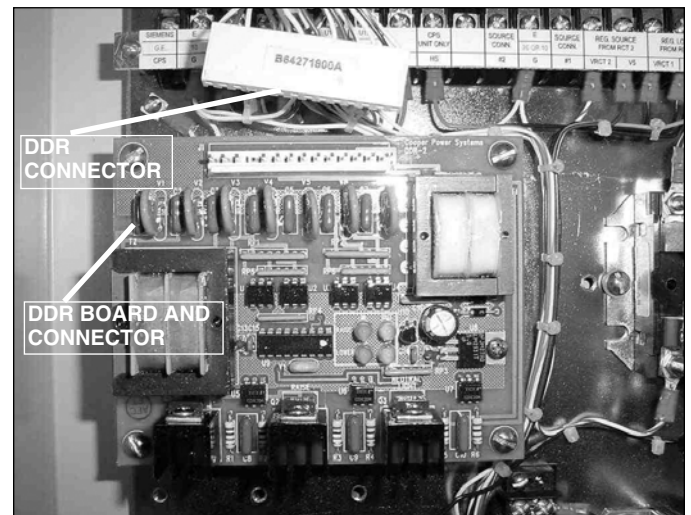

Figure 2.
3. Disconnect the white connector from the top of the DDR Board (See Figure 2).